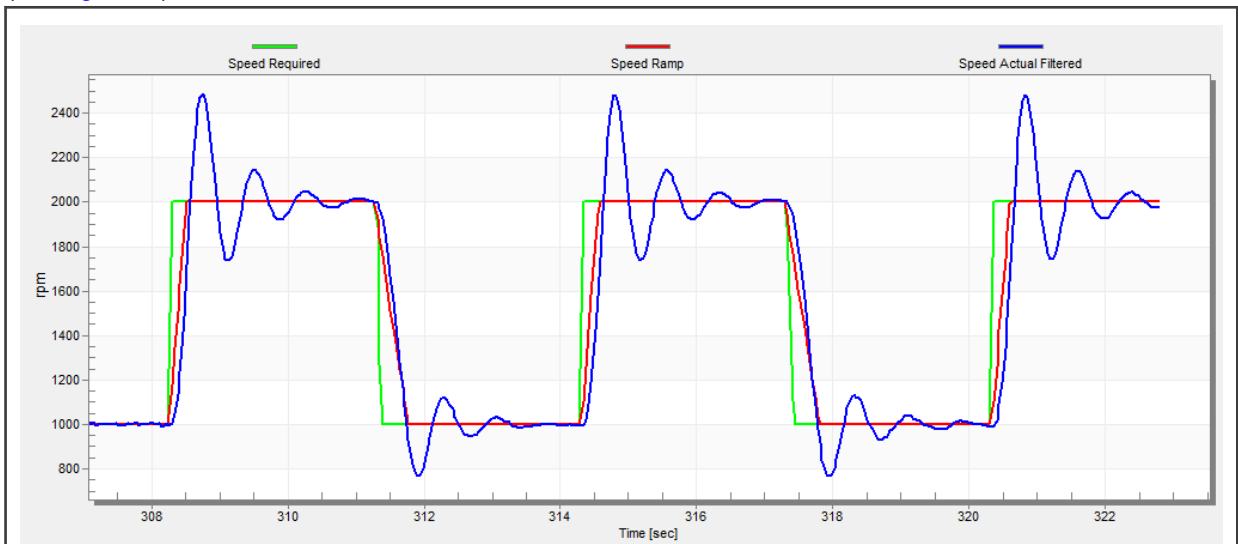

Figure 44. Speed controller response—SL_Kp value is low, Speed Actual Filtered greatly overshoots
- The “SL_Kp” value is low, the “Speed Actual Filtered” greatly overshoots, and the long settling time is unwanted (see Figure 44).